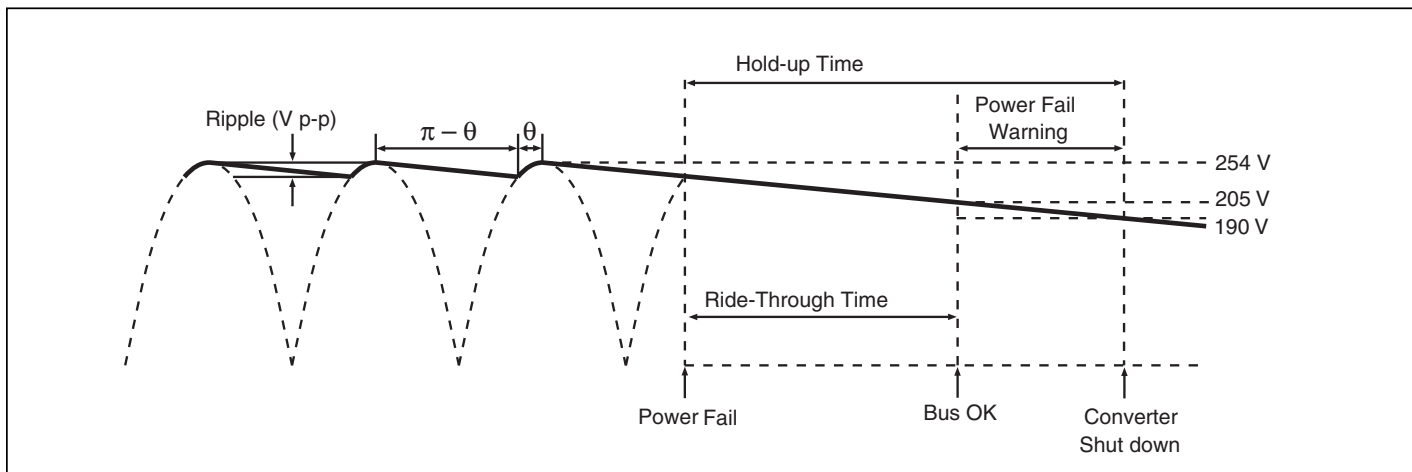

Figure 15 — Hold-up time
Hold-up capacitor values should be determined according to output bus voltage ripple, power fail hold-up time, and ride-through time (see *Figure 15*). Many applications require the power supply to maintain output regulation during a momentary power failure of specified duration, i.e., the converters must hold-up or ride through such an event while maintaining undisturbed output voltage regulation. Similarly, many of these same systems require notification of an impending power failure in order to allow time to perform an orderly shutdown.
The power fail warning time ( $\Delta t$ ) is defined as the interval between BOK and converter shutdown (EN) as illustrated in *Figure 15*. The Bus-OK and Enable thresholds are 205 V and 190 V, respectively. A simplified relationship between power fail warning time, operating power, and bus capacitance is obtained by inserting these constants in Equation (3):
Equation 3 is again used to determine the required capacitance. In this case,  $V_1$  and  $V_2$  are the instantaneous values of bus voltage at the peaks and valleys (see *Figure 15*) of the ripple, respectively. The capacitors must hold up the bus voltage for the time interval ( $\Delta t$ ) between peaks of the rectified line as given by: